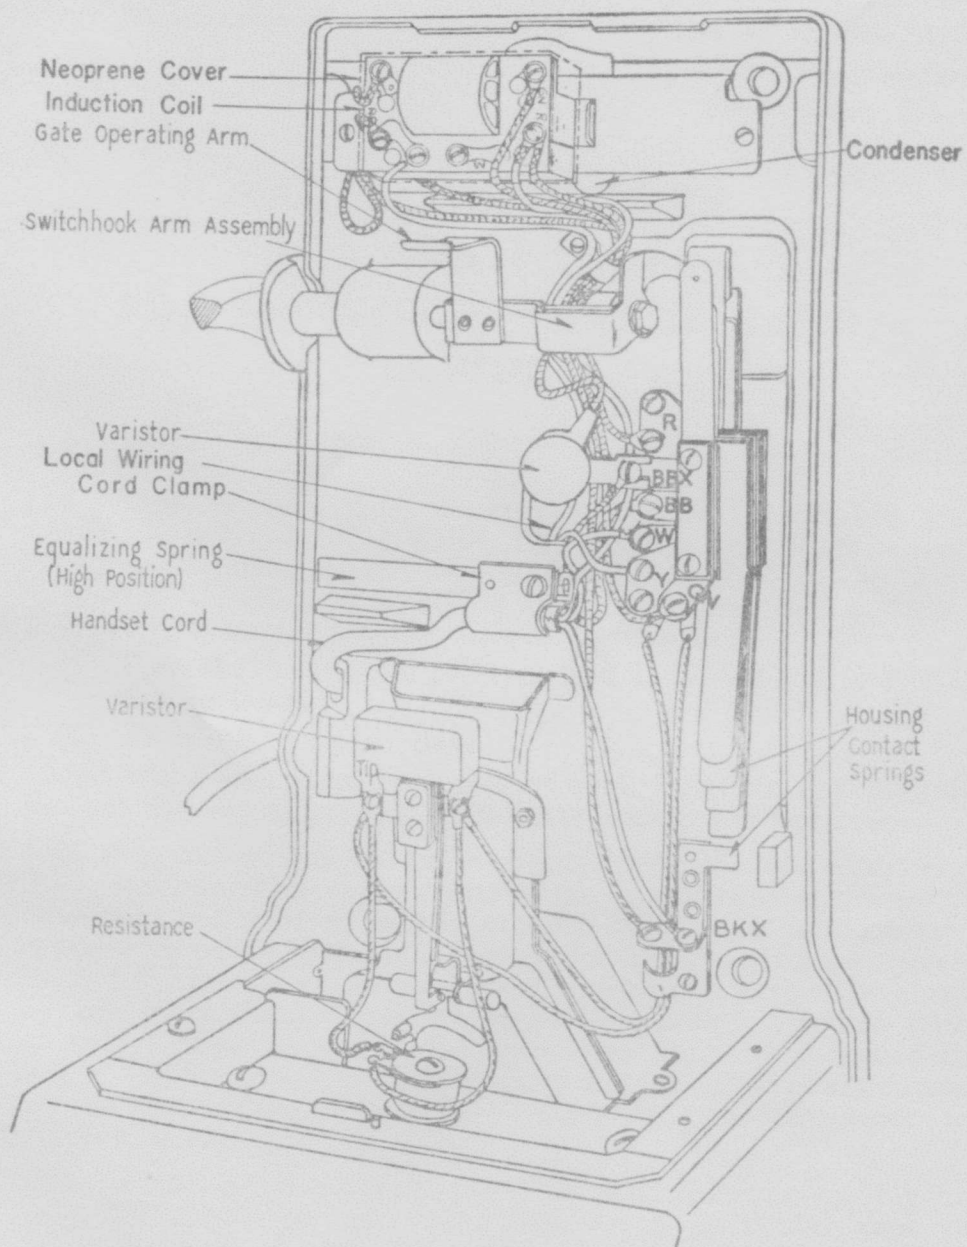

Fig. 25—193-type Coin Collector—Lower Housing and Backplate
- B. 158-type collector is similar except wires to lower housing go to the hopper contacts (see Fig. 25) instead of to coin relay.
- B. 158-type collector is similar except wires to lower housing go to hopper contacts (see Fig. 25) instead of to coin relay.
- B. 168-type collector is similar except wires to lower housing go to hopper contacts (see Fig. 25) instead of coin relay.
- B. The later types of these collectors may have induction coil inverted as shown in Fig. 25.